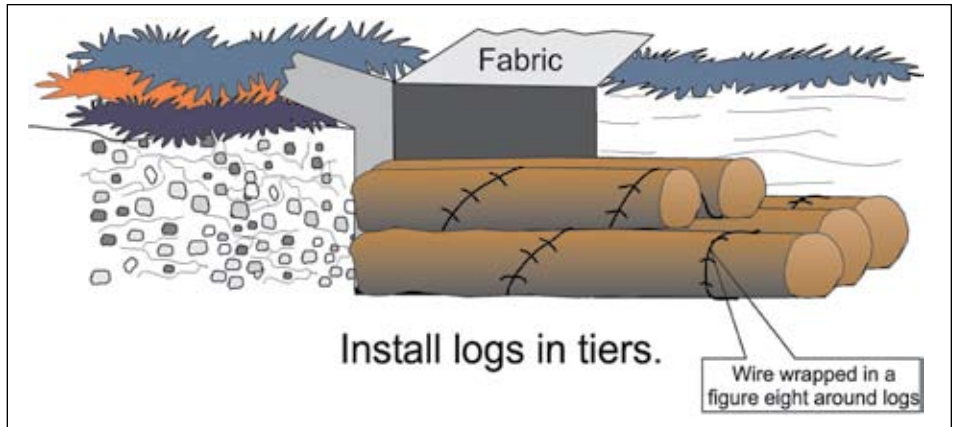

Figure 11.
3. Install logs in the prepared site using as many tiers as necessary to stack them even with the lip of the headwall. (See Figures 11 and 12). Logs within each tier should be of the same diameter; between tiers, they can be of different diameters. Logs in the bottom tier should be the longest; the top tier, the shortest. For example, if three tiers are needed, make the bottom tier 8 feet long, the middle tier 6 feet, and the top tier 4 feet long. It is important to wedge logs tightly against the face of the headwall and sidewalls. When all tiers are in place, fold the extra flap of fabric